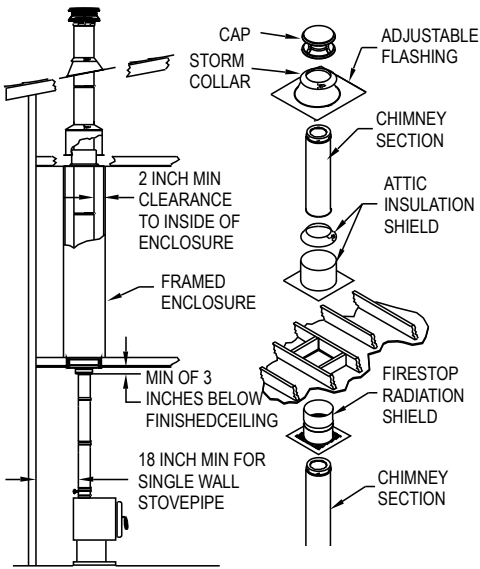

Figure 7
4. Frame Openings: Frame openings in each ceiling or floor above the Support Box (Fig 7). These openings are to hold the Firestop Radiation Shield and Attic Insulation Shield. Locate each opening by dropping a plumb bob to the four corners of the opening below. Maintain the framing dimensions as specified in Table 2.
above that where the Support Box is located. Example: in a multistory home where the appliance is on the ground floor (Support Box is in the 1st floor ceiling), you would need a Firestop Radiation Shield at the 2nd floor ceiling, and at the 3rd floor ceiling, etc., including where the chimney penetrates into the attic. **Figure 7** shows a typical 2-story installation with an attic.
- d. Slip the Attic Insulation Shield over the Chimney and Firestop Radiation Shield until the base sits squarely on the framed opening (**Fig 7 & 10**).